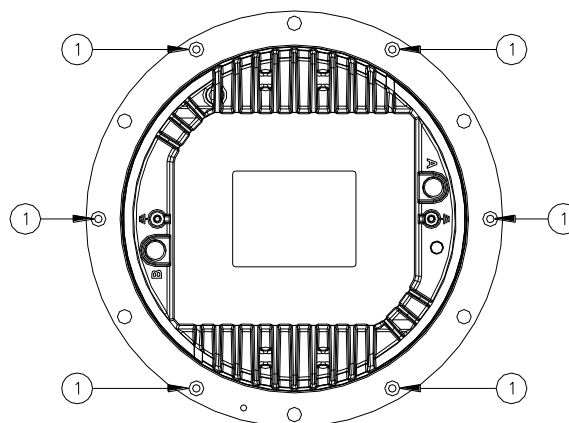

Figure 16 - Lower Cover Fixing Screws
- Open the fixture by unscrewing the six locking screws TORX SFH M5x10 (Figure 16 - n°1).
- six locking screws TORX SFH M5x10 (Figure 16 - n°1);
- Verify the correct position of the two O-Ring between dome and lower cover (Figure 18 – n°2 and 3); mount the lower cover on the dome and fasten it by means the six screws TORX SFH M5x10 (Figure 16 - n°1). One drop of anaerobic adhesive lower type (e.g. LOXEAL 24-18) should be applied to the screws before installation; tightening torque is 2.5 Nm.